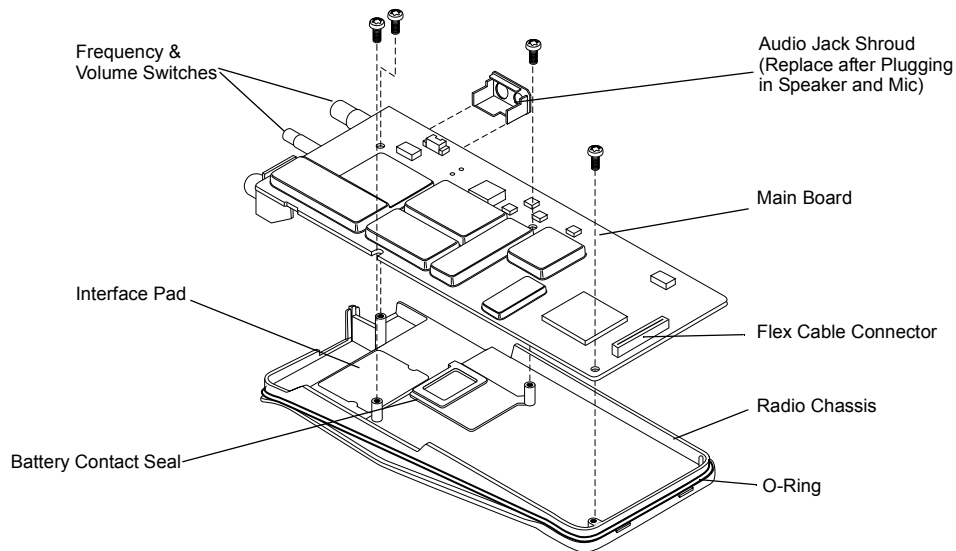

Figure 6-17. Main Board onto Chassis Re-assembly
1. Replace the battery contact seal (if necessary) surrounding the battery contact (Figure 6-17).
3. Place the main circuit board straight down on top of the chassis with the frequency and volume switches facing down (Figure 6-17).
- c. Slide the audio jack shroud onto accessory connector (Figure 6-17).